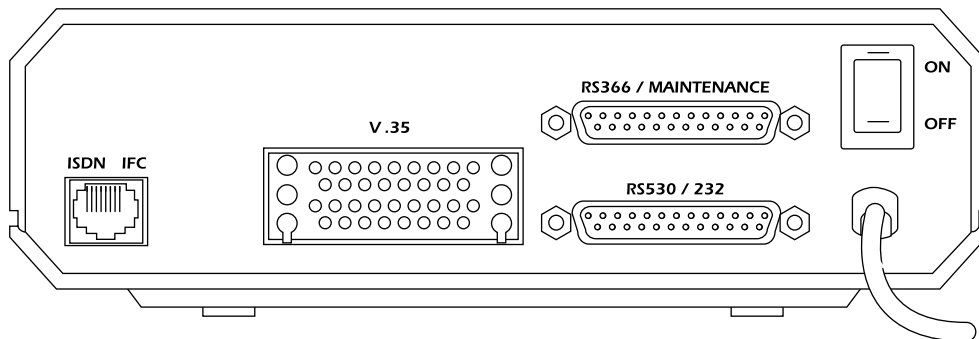

Figure 1-1
| Figure 1-1: | ISU 128 Rear Panel | 2 |
The ISU 128 has one RJ-45 jack available on the rear panel for network connection (see Figure 1-1). The RJ-45 jack labelled **ISDN IFC** is for ISDN Basic Rate. ISDN Basic Rate service divides a standard telephone line into three digital channels capable of simultaneous voice and data transmission. The three channels are comprised of two bearer (B) channels at 64 kbps and one data (D) channel at 16 kbps (2B+D).